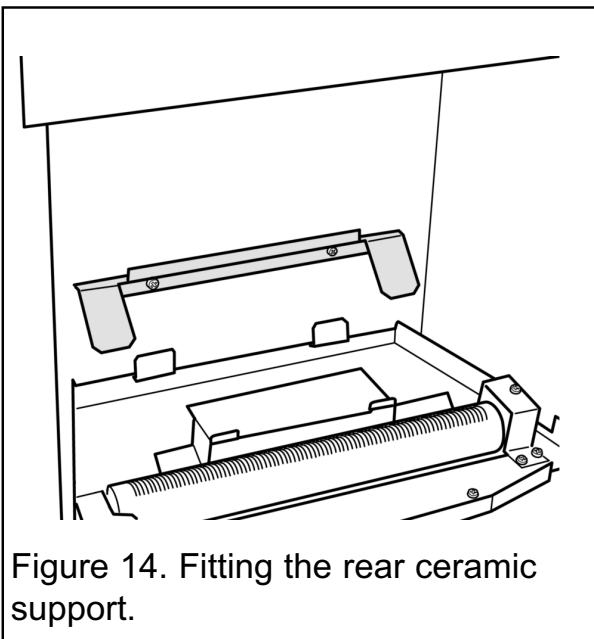

Figure 14. Fitting the rear ceramic support.
6. This appliance is supplied with a rear ceramic support bracket. Fit this using two screws supplied (See figure 14)